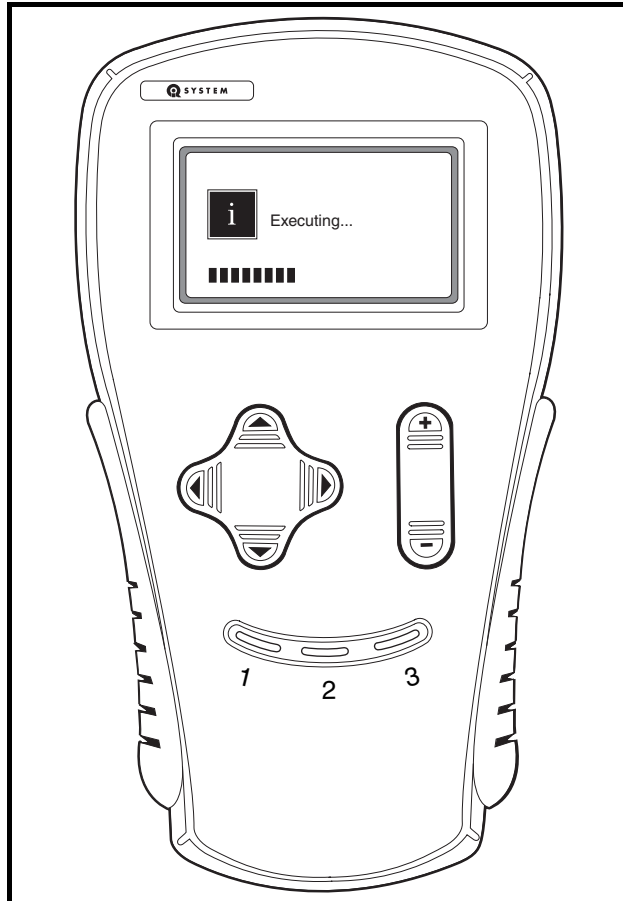
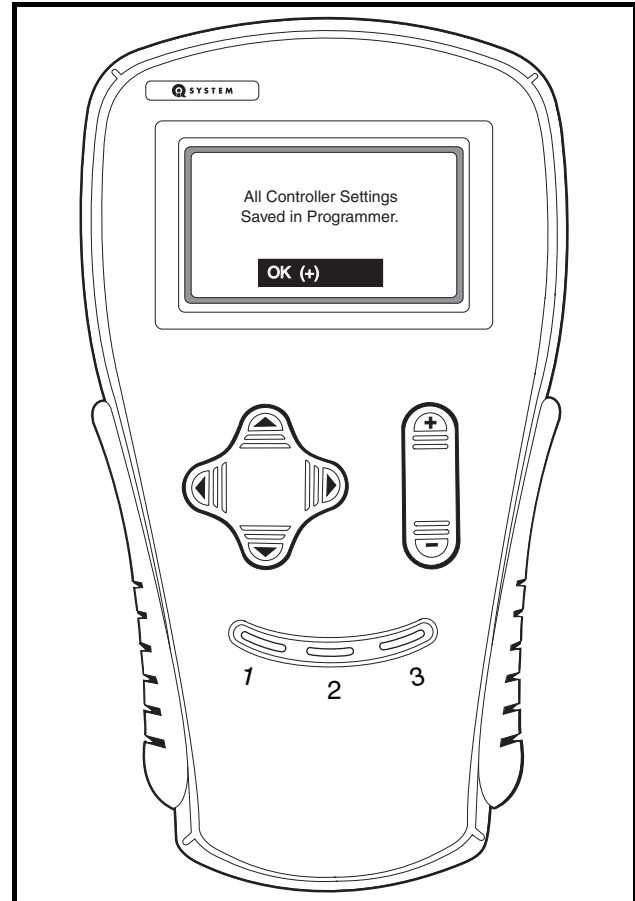

Figure 22-4 Handset Executing
Figure 22-5 Confirmation Message
- 3.4. Align the keyed portion of the plug with the IQDM jack and connect the plug to the jack **(Figure 22-4, Page 22-12 or Figure 22-5, Page 22-12)**.
8. The handset will display an “executing...” message for the next few seconds while the controller settings are being stored in the handset’s memory **(Figure 22-4, Page 22-12)**.
9. When the handset is finished recording the speed controller settings, a confirmation message is displayed **(Figure 22-5, Page 22-12)**.
- 4.4. Align the keyed portion of the plug with the IQDM jack and connect the plug to the jack **(Figure 22-4, Page 22-12 or Figure 22-5, Page 22-12).**
9. The handset will display an “executing...” message for the next few seconds while the controller settings are being stored in the handset’s memory (**Figure 22-4, Page 22-12**).
5. The handset will display an “executing...” message for the next few seconds while the controller settings are being stored in the handset’s memory (**Figure 22-4, Page 22-12**).